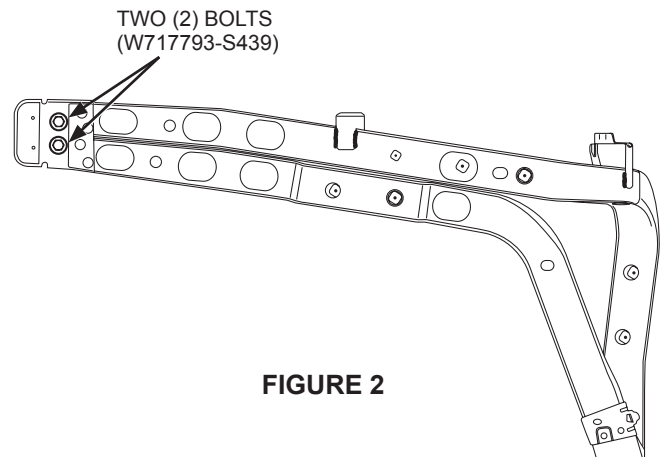

FIGURE 2
- (Refer to Figure 2) for location of the two (2) bolts (W717793-S439).